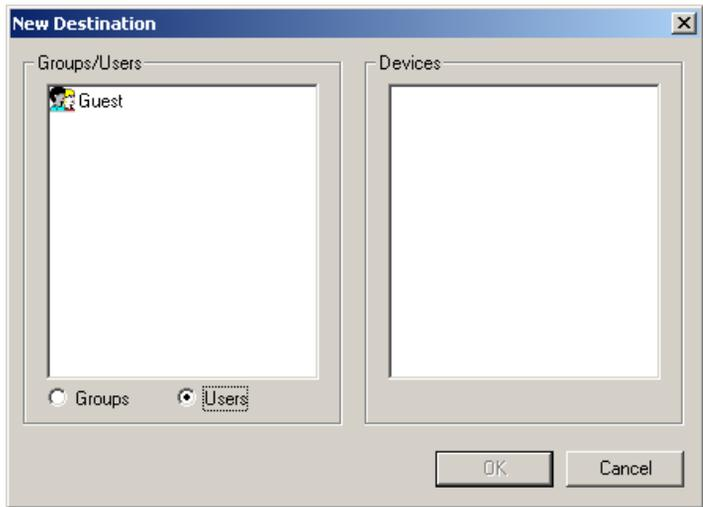

Figure 122. New Destination Dialog Box (Users Selected)
9. Click **New** to create a new destination. The New Destination dialog box as shown in Figure 122 appears.